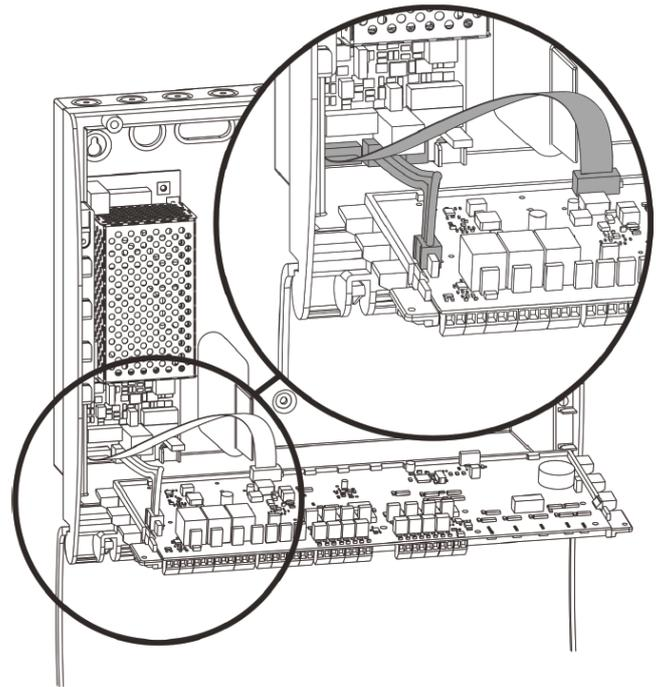
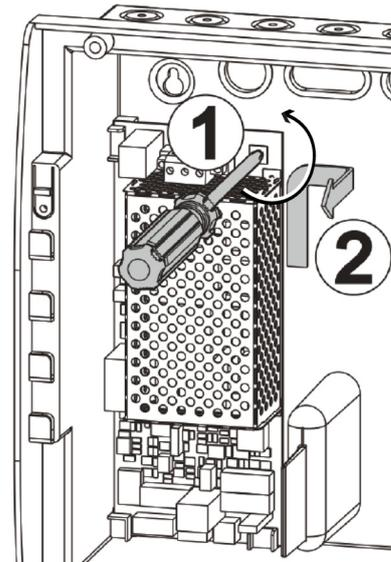

Figure 15. Disconnect the PSE
Figure 16. Remove the PSE
- To remove the PSE PCB from the back box unplug the cables from the main board as shown in Figure 15
- Then simply remove the screw and push the PCB up, to the right and forwards as shown in Figure 16.
- Secure the PSE PCB back into the back box by following the reverse instructions on the previous page (see Figure 15 and Figure 16).